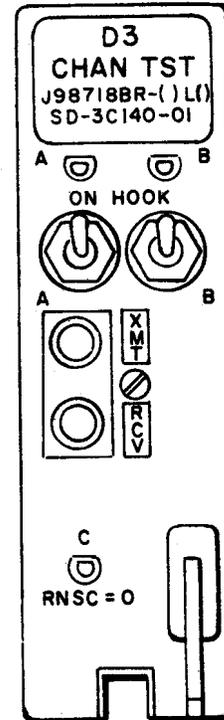

Fig. 1—D3 Signaling and Transmission Test Unit
1.01 This section describes the J98718BR signaling and transmission test unit (Fig. 1) which can be plugged into any channel unit slot of the D3 channel bank to test the common signaling circuits. Detailed circuit information is contained in SD-3C140-01 and CD-3C140-01.